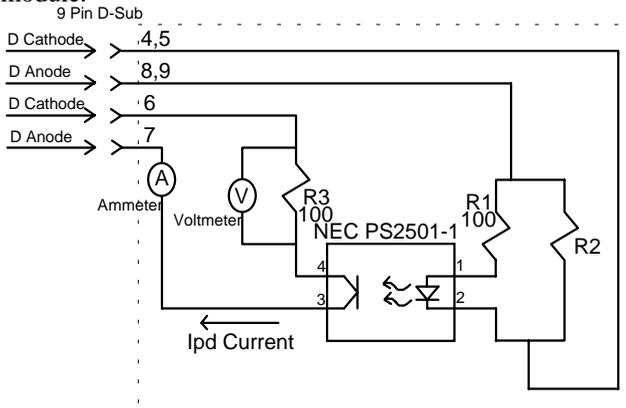

Figure 34 - I_{PD} Calibration Circuit
- a. With the laser output off, connect a calibrated ammeter to the PD Anode output of the module and connect the circuit of Figure 34 to the laser and PD outputs.
If a calibrated ammeter (with 0.1 μA resolution) is not available, place a calibrated DMM (with 0.1 mV resolution) to measure the voltage across the resistor, R3, as shown in Figure 34. Calculate the current in the following steps by using Ohm's Law:
- a. With the laser output off, connect a calibrated ammeter to the photodiode anode output of the module and connect the circuit of Figure 34 to the laser and photodiode outputs.
If a calibrated ammeter (with 0.1 μA resolution) is not available, place a calibrated DMM (with 0.1 mV resolution) to measure the voltage across the resistor, R_3 , as shown in Figure 34. Calculate the current in the following steps by using Ohm's Law: